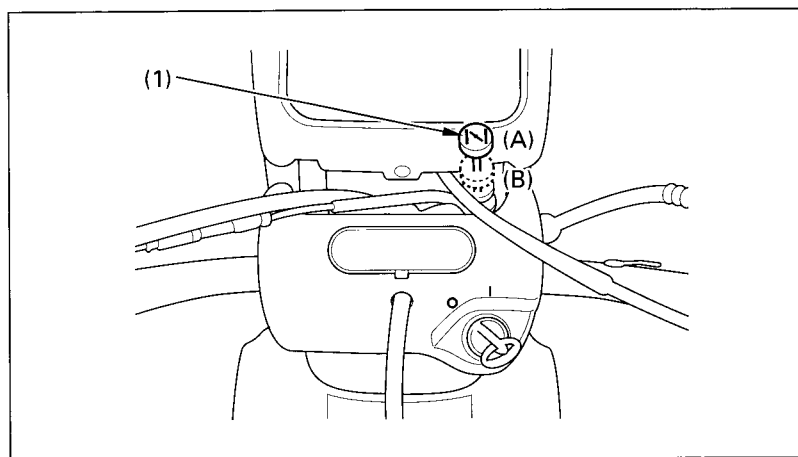

Fig. 2-7
The choke knob (Fig. 2-7) is located above the handlebar cover. The choke has two positions: fully ON (A), and fully OFF (B).